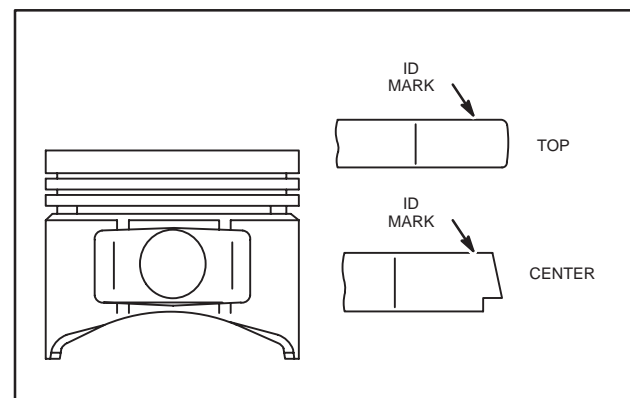

Fig. 13 – Installing Compression Rings
2. Using ring expander, Tool #19340, install center compression ring then, top compression ring with ID marks up, Fig. 13.